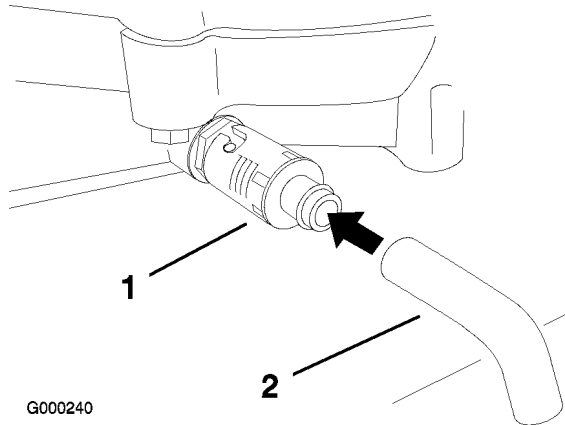

Figure 36
6. Place a pan below the drain hose. Rotate oil drain valve to allow oil to drain (Figure 36).
8. Remove the drain hose (Figure 36).